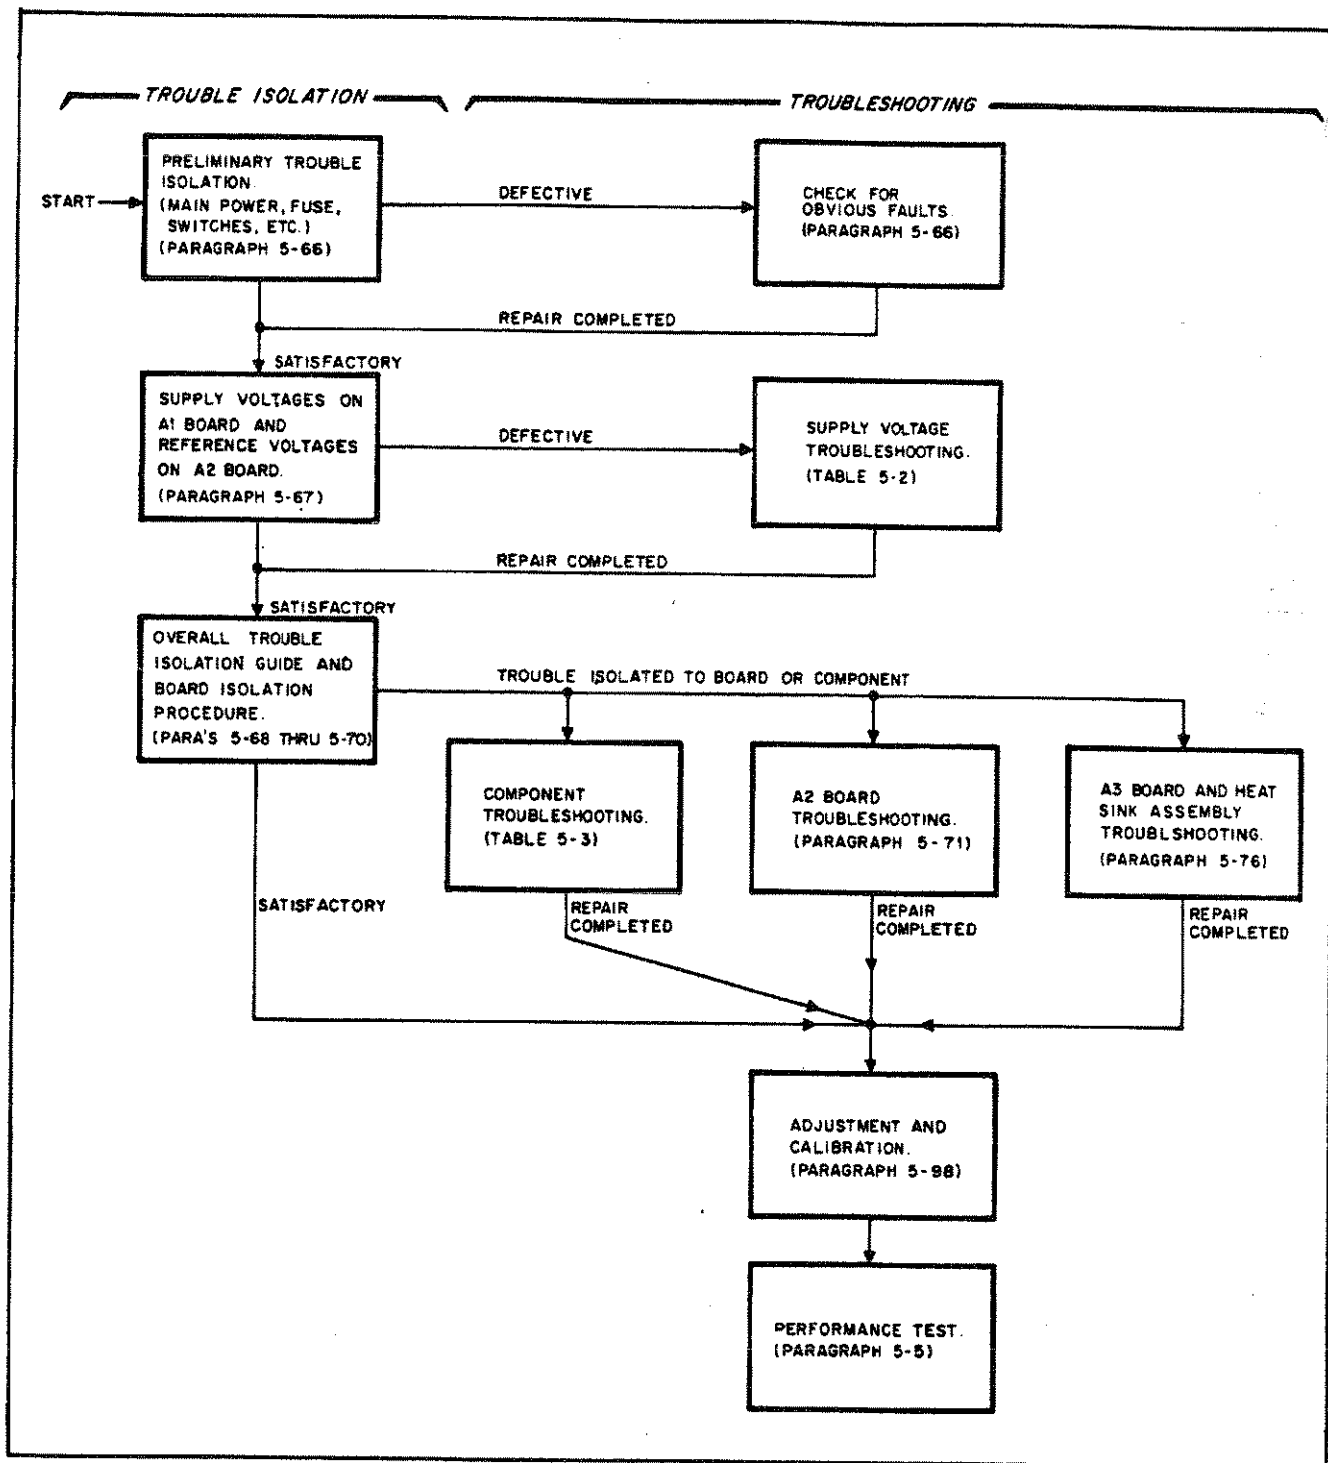

Figure 5-17. Trouble Isolation and Troubleshooting Procedure, Overall Scheme
**5-65** Figure 5-17 illustrates the overall scheme of the trouble isolation and troubleshooting procedures which follow. The trouble isolation procedures represented by the boxes in the left-hand column are intended to localize a problem to a particular area, both by direct testing and a process of elimination. Instructions at each stage of the isolation procedure direct you to the appropriate troubleshooting instructions, if required. These steps must be followed in the order in which they are given so that circuits are operational that are needed for testing other circuits. It is not necessary to make any calibration adjustments until troubleshooting has been completed. At that time, any necessary adjustments should be made and then the performance test of Paragraph 5-5 should be completed.